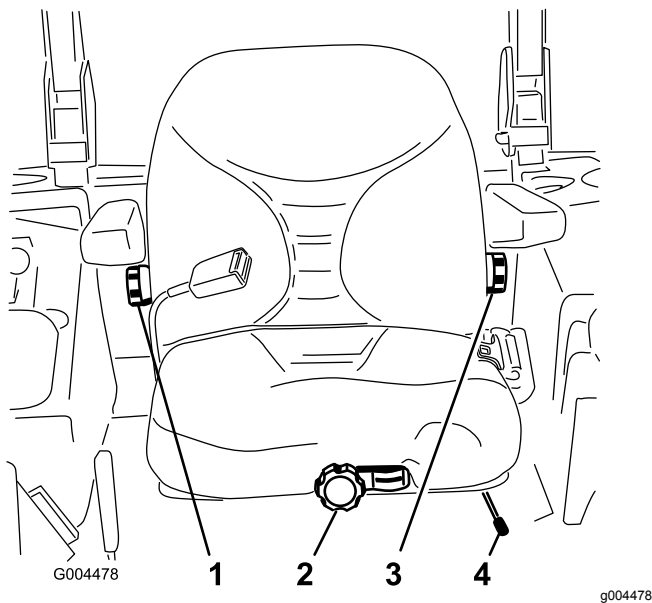

Figure 16
1. To adjust, move the lever sideways to unlock the seat (Figure 16).
Without sitting on the seat, turn the knob in front either direction to provide the best comfort (Figure 16).
To adjust it, turn the knob, under the right-side arm rest, in either direction to provide the best comfort (Figure 16).
To adjust it, turn the knob, under the left-side arm rest, in either direction to provide the best comfort (Figure 16).